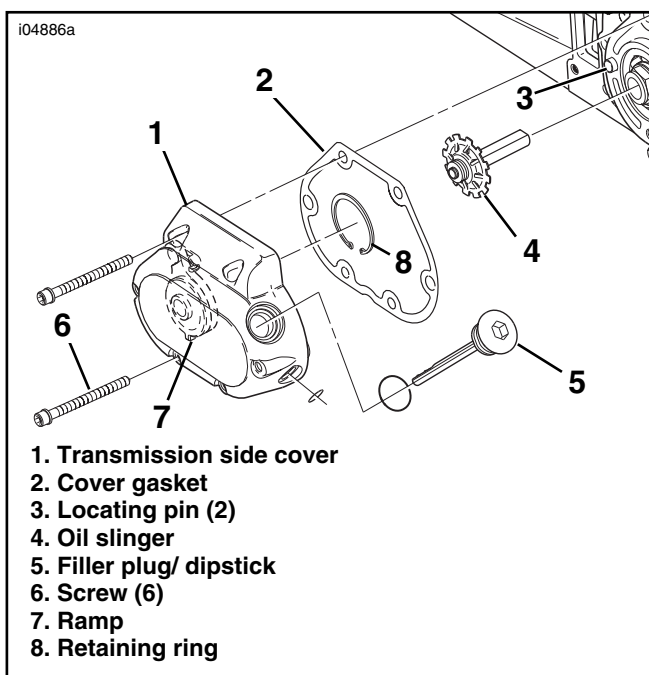

Figure 1. Original Transmission Side Cover
6. See Figure 1. Remove and retain the filler plug/ dipstick (5) for later installation. Remove the six socket-head screws with washers (6) to free the transmission side cover (1) from the transmission case.
7. Actuate the clutch lever to break the cover seal. Remove the cover. Remove and discard the cover gasket (2).
8. Remove the clutch ramp retaining ring (8). Rotate the inner ramp (7) to a position that will allow the clutch coupling to be disconnected. Disconnect the clutch coupling and disconnect the cable end from the coupling.
10. Remove the oil slinger (4) as an assembly from the transmission mainshaft. Discard the oil slinger.